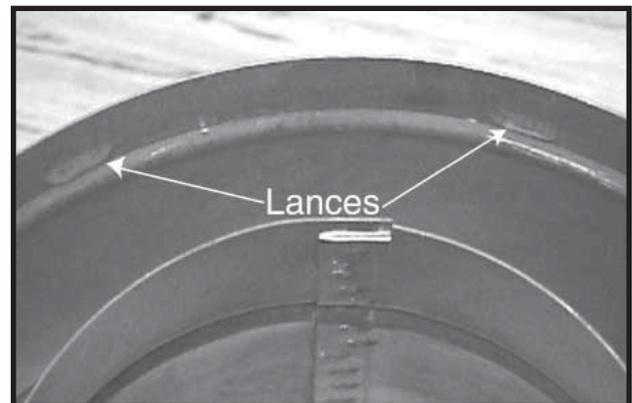

Figure 1.18
- Slide the male end of the inner flue of the pipe section over the inner collar on the heater. At the same time, slide the outer flue over the outer collar on the heater. Push the flue section into the appliance collar until all the lances (see Figure 1.18) have snapped in place. Tug slightly on the flue to confirm that it has completely locked into place.